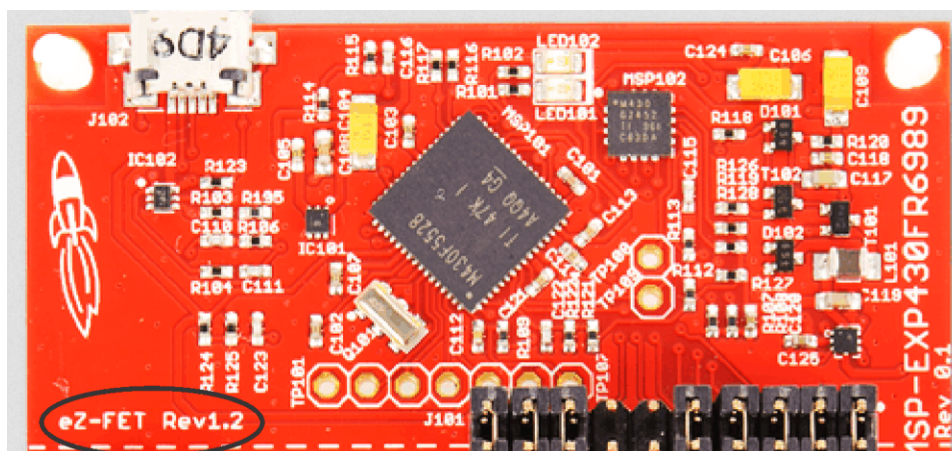
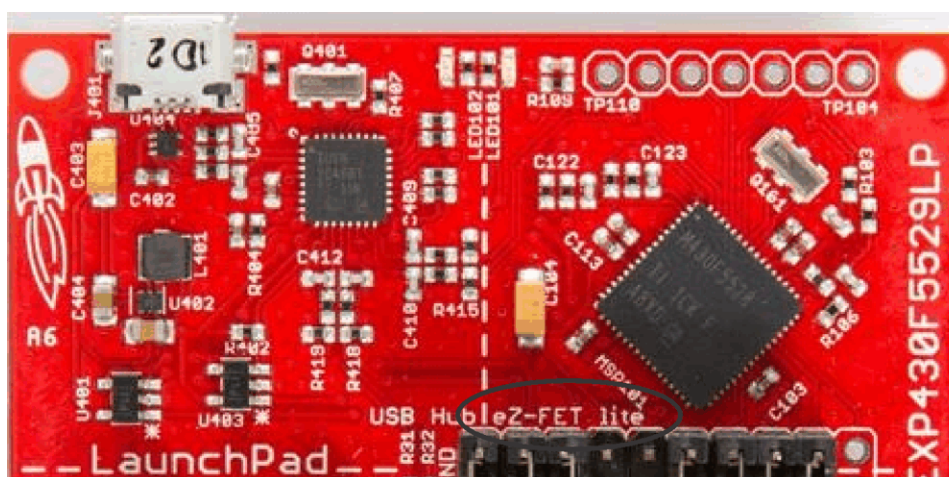

Figure 2. eZ-FET Rev 1.2 Emulation IP
Figure 5. eZ-FET Lite Emulation IP
- There is a small print on the silkscreen that indicates eZ-FET or eZ-FET Lite (see Figure 2 and Figure 5).